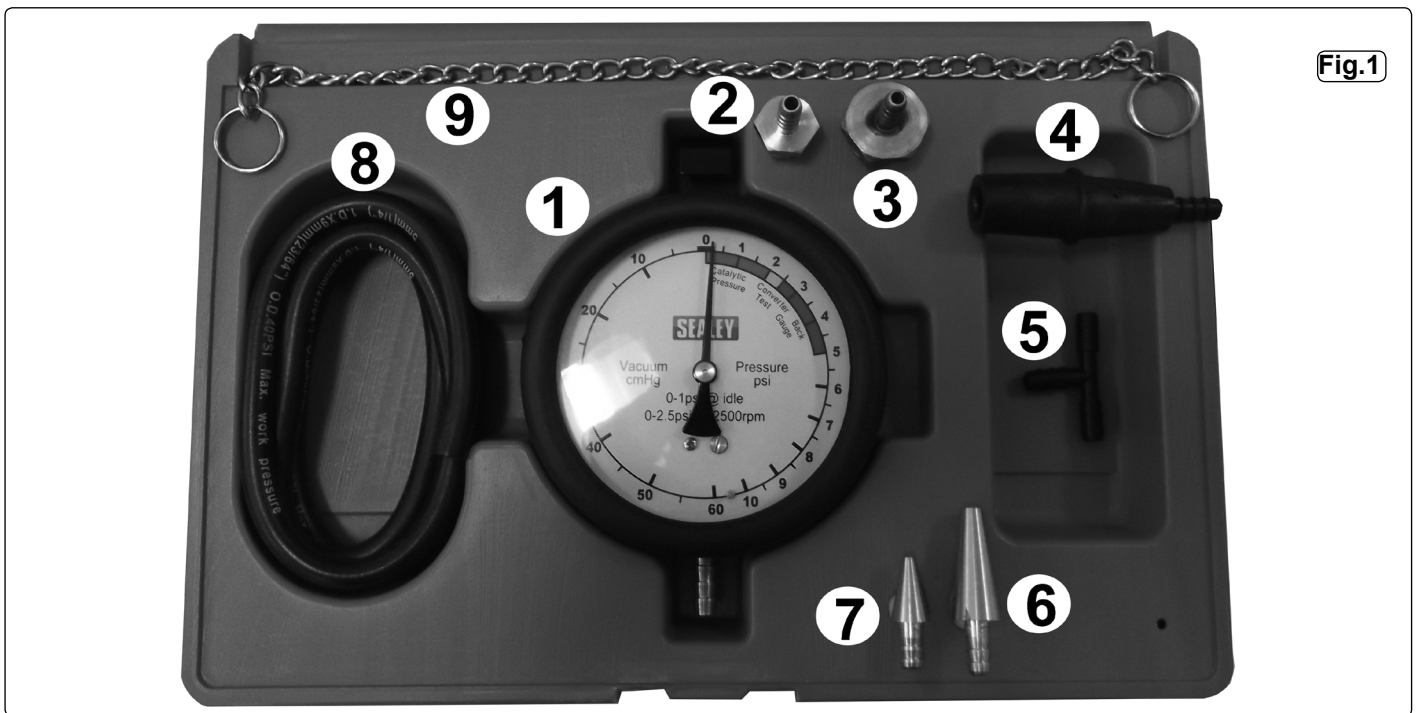

Fig.1
- 3.1.3. Connect the rubber hose and gauge (see fig.1) onto the oxygen sensor adaptor.